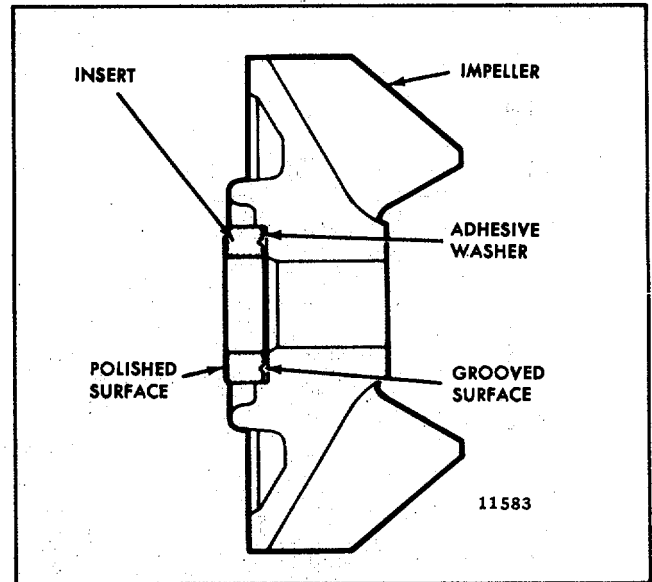

FIG. 3 - Impeller with Ceramic Insert
- c. Place the adhesive washer in the impeller bond area with the ceramic insert on top. The polished face of the ceramic insert should be visible to the assembler (Fig. 3).